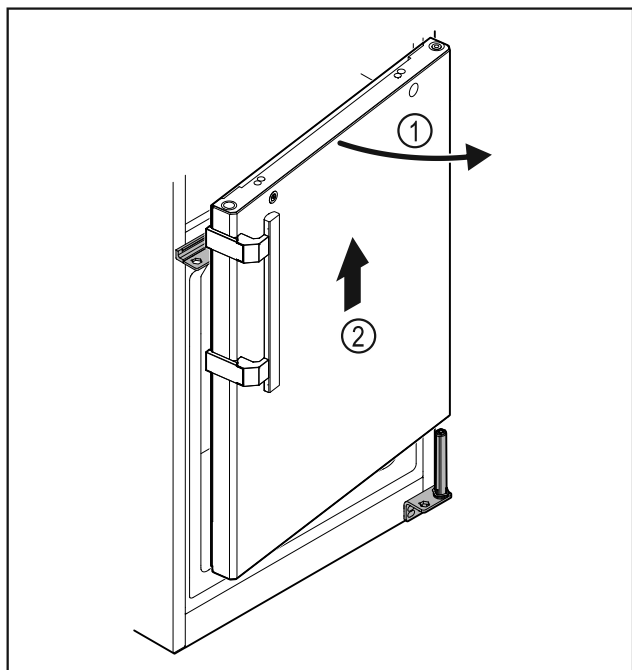

Fig. 32
- ▶ Open the door Fig. 32 (1) slightly, lift it straight up by around 200 mm and take it off Fig. 32 (2).